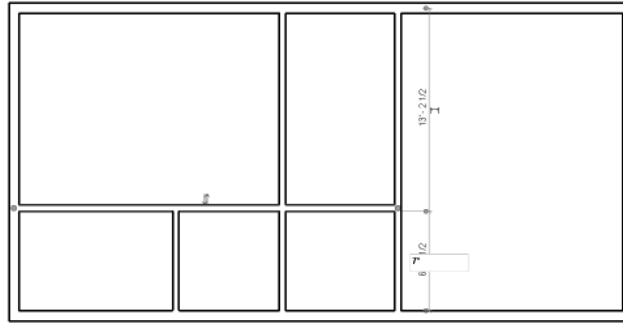

Figure 3-61 Entering the value to adjust the dimension of the horizontal interior wall
6. Click on the temporary dimension from the lower external wall and enter the value **7'**, as shown in Figure 3-61 and press ENTER. On doing so, the interior wall is moved to the desired location. Now, press ESC to exit the **Modify | Walls** tab.
This completes the interior wall layout for the *Apartment 1* project, refer to Figure 3-61.